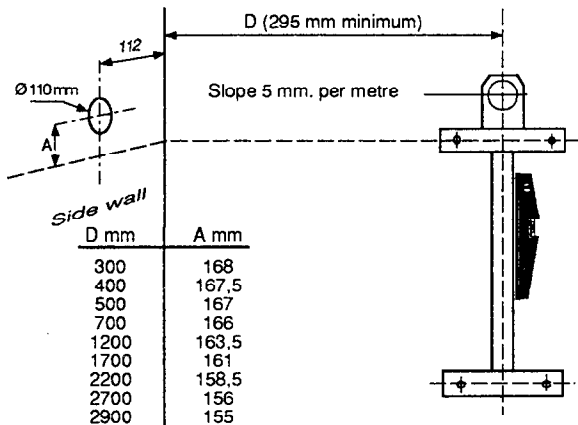

Fig. 20
- Mark vertical centre line for boiler on wall (see fig. 20).
- Using bracket as a template mark 4 fixing slots (A) and (B).
- Mark horizontal line through the fixing slots (A) and project to side wall.
- Drill 4 fixing holes (for (A) top of slot) and (for (B) bottom of slot).